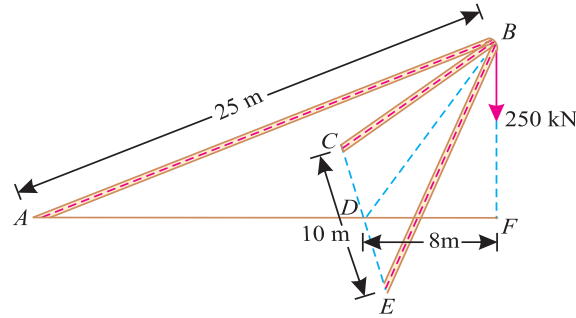

Fig. 5.23.
**Example 5.10.** Fig. 5.23 shows a shear leg crane lifting a load of 250 kN.